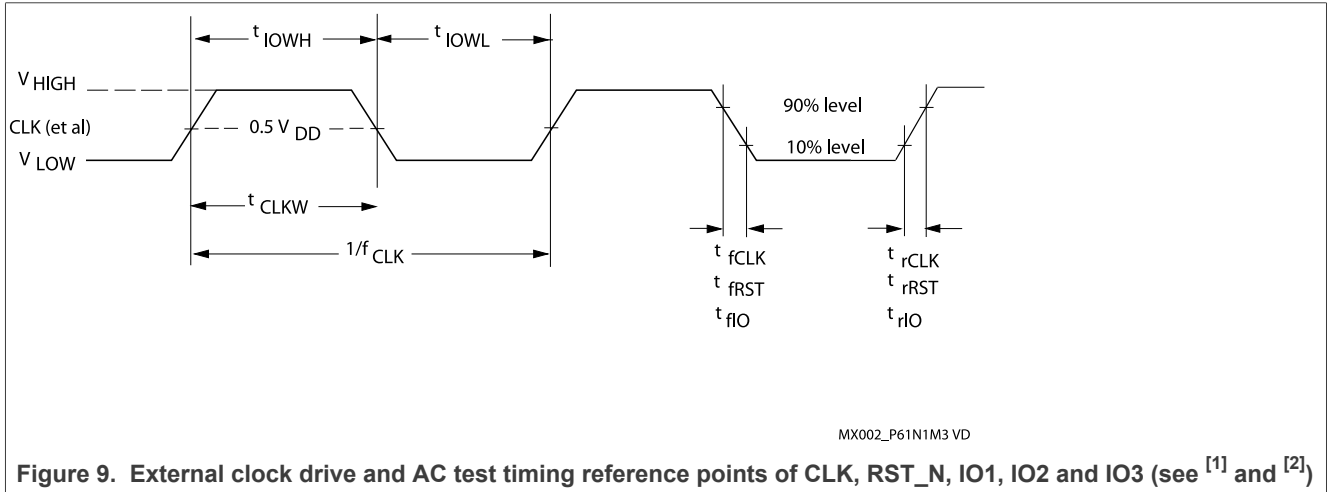

Figure 9. External clock drive and AC test timing reference points of CLK, RST\_N, IO1, IO2 and IO3 (see [1] and [2])
- [5] During AC testing the inputs CLK, RST\_N, IO1, IO2 and IO3 are driven at 0 V to 0.3 V for a LOW input level and at  $V_{DD} - 0.3$  V to  $V_{DD}$  for a HIGH input level. Clock period and signal pulse (duty cycle) timing is measured at 50 % of  $V_{DD}$  (see Figure 9).